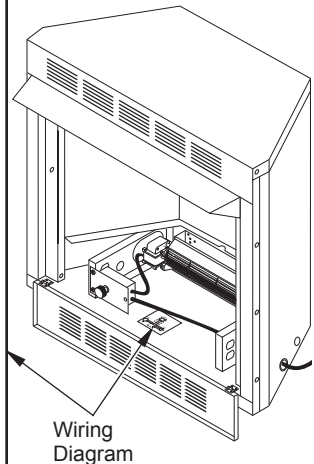

Figure 7 - Location of Wiring Diagram Decal 3" from Blower
- Peel off the backing paper and stick the supplied wiring diagram decal on the firebox bottom approximately 12" in front of blower (see Figure 7).